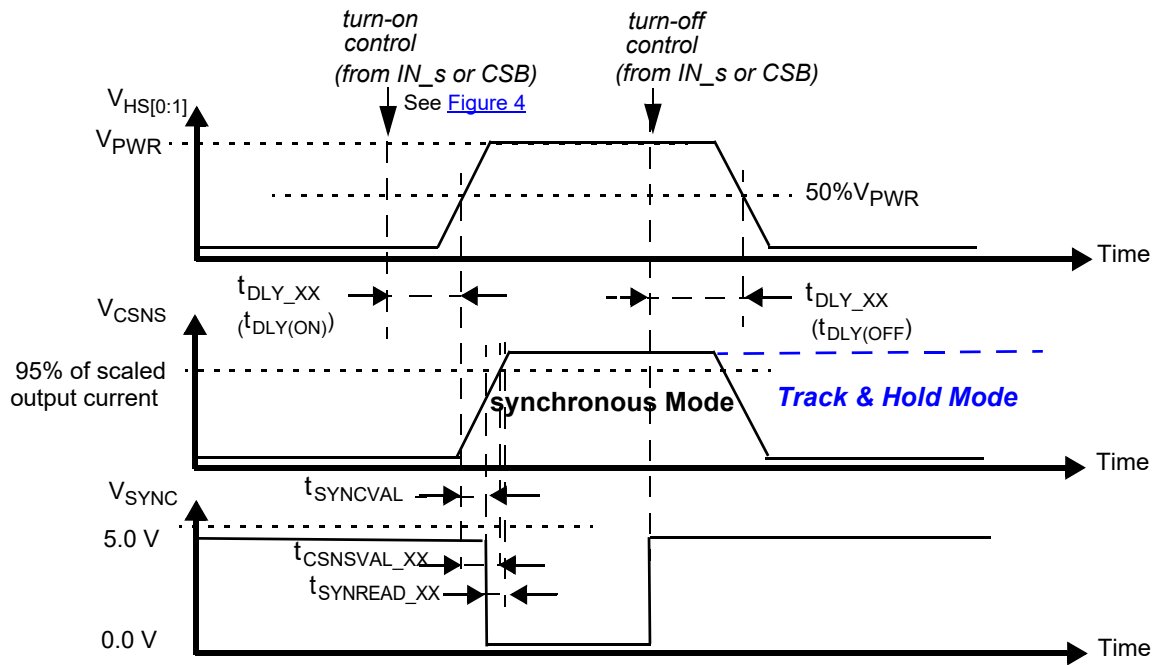

Figure 9. Synchronous and Track & Hold current sensing modes: associated delay and settling times
- Time required to switch off the channel after detection of overtemperature (OT), overcurrent (OC), SC or UV error (time measured between start of the negative edge on the FSB pin and the falling edge on the output voltage until $V(\text{HS}[0:1]) = 50\%$ of V_{PWR}).
- Settling time ($= t_{CSNSVAL_XX}$), SYNC output signal delay ($= t_{SYNVAL_XX}$) and Read-out delay ($= t_{SYNREAD_XX}$) are defined for a stepped load current ($100\text{ mA} < I(\text{LOAD}) < I_{OCLX_A}$ FOR $\text{CSNS_RATIO_S} = 1$, AND $300\text{ mA} < I(\text{LOAD}) < I_{OCLX_A_0}$ FOR $\text{CSNS_RATIO_S} = 0$). See Figure 9 and Output current monitoring \(CSNS\).
35. Settling time ($= t_{\text{CSNSVAL_XX}}$), SYNC output signal delay ($= t_{\text{SYNCVAL_XX}}$) and Read-out delay ($= t_{\text{SYNREAD_XX}}$) are defined for a stepped load current ($100\text{ mA} < I(\text{LOAD}) < I_{\text{OCLX A}}$ FOR $\text{CSNS_RATIO_S} = 1$, AND $300\text{ mA} < I(\text{LOAD}) < I_{\text{OCLX A_0}}$ FOR $\text{CSNS_RATIO_S} = 0$) See Figure 9 and Output current monitoring \(CSNS\).
The CS pin allows independent current monitoring of channel 0 or channel 1 up to the steady state overcurrent threshold. It can also be used to sense the device temperature. The different functions are selected by setting bits CSNS1_en and CSNS0_en to the appropriate value (Table 23). When the CSNS pin is sensed during switch-off in the (optional) track & hold mode (see Figure 9), it outputs the scaled value of the load current as it was just before turn-Off. When several devices share the same pull-down resistor, the CSNS pins of devices the current of which is not monitored must be tri-stated. This is accomplished by setting CSNS0_en = 0 and CSNS1_en = 0 in the GCR register (Table 10). Settling time ($t_{CSNSVAL_XX}$) is defined as the time between the instant at the middle of the output voltage's rising edge ($HS[0:1] = 50\%$ of V_{PWR}), and the instant at which the voltage on the CSNS-pin has settled to $\pm 5.0\%$ of its final value. Anytime an overcurrent window is active, the CSNS pin is disabled (see Overcurrent detection on resistive and inductive loads). The current and temperature sensing functions are unavailable in Fail-safe mode and in Normal mode when operating without the V_{DD} supply voltage. In order to generate a voltage output, a pull-down resistor is required ($R(CSNS)=1.0\text{ k}\Omega$ typ. and $470 < R(CSNS) < 10\text{ k}$). When the current sense resistor connected to the CSNS pin is disconnected, the CSNS voltage is clamped to $V_{CL(CSNS)}$. The CSNS pin can source currents up to about 5.6 mA.
To synchronize current sensing with an external process, the SYNC signal can be connected to a digital input of an external MCU. SYNC is asserted logic low when the current sense signal is accurate and ready to be read. The current sense signal on the CSNS pin has the specified accuracy $t_{SYNREAD_XX}$ seconds after the falling edge on the SYNC pin (Figure 9) and remains valid until a rising edge is generated. The rising edge that is generated by the SYNC pin at the turn-OFF instant (internal or external) may also be used to implement synchronization with the external MCU. Parameter t_{SYNVAL_XX} is defined as the time between the instant at the middle of the output-voltage rising edge ($HS[0:1] = 50\%$ of V_{PWR}), and the instant at which the voltage on the SYNC-pin drops below 0.4 V (V_{SOL}). The SYNC pins of different devices can be connected together to save μ -controller input channels. However, in this configuration, the CSNS function of only one device should be active at a time. Otherwise, the MCU does not determine the origin of the SYNC signal. The SYNC pin is open drain and requires an external pull-up resistor to VDD.